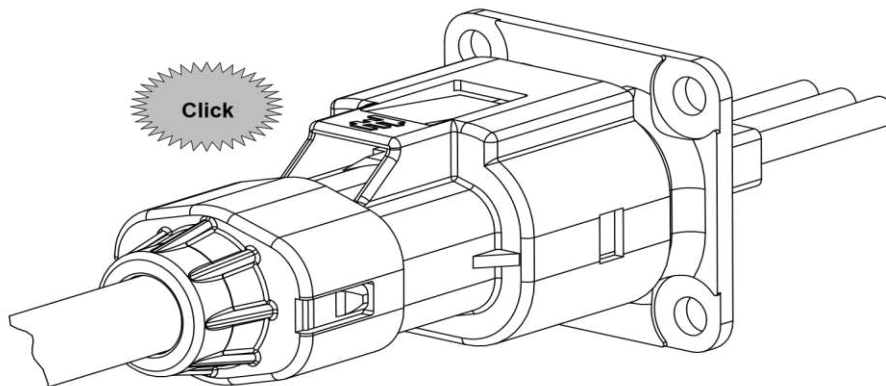

Figure 22
1. Push the AMP+ HVA280-3pxm plug assembly and header assembly together until the main latch engages with an audible and tactile click. See Figure 22. If the connector halves do not fit together easily, check the following: